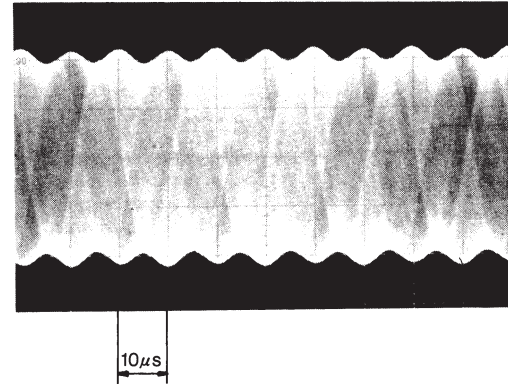

Fig. 6
- ⑤ When the VR-1 volume is set near the center and the scale is moved, the waveform shown in Fig. 6 appears. At this point, adjust the VR-3 volume to minimize the envelope ripple. Then, finely adjust the VR-1 volume to minimize the envelope ripple. Here, the fine adjustment can be facilitated by raising the oscilloscope sensitivity (50 to 100 mV/div), adjusting the vertical position, and enlarging the envelope ripple in the center of the screen before adjusting the volume.